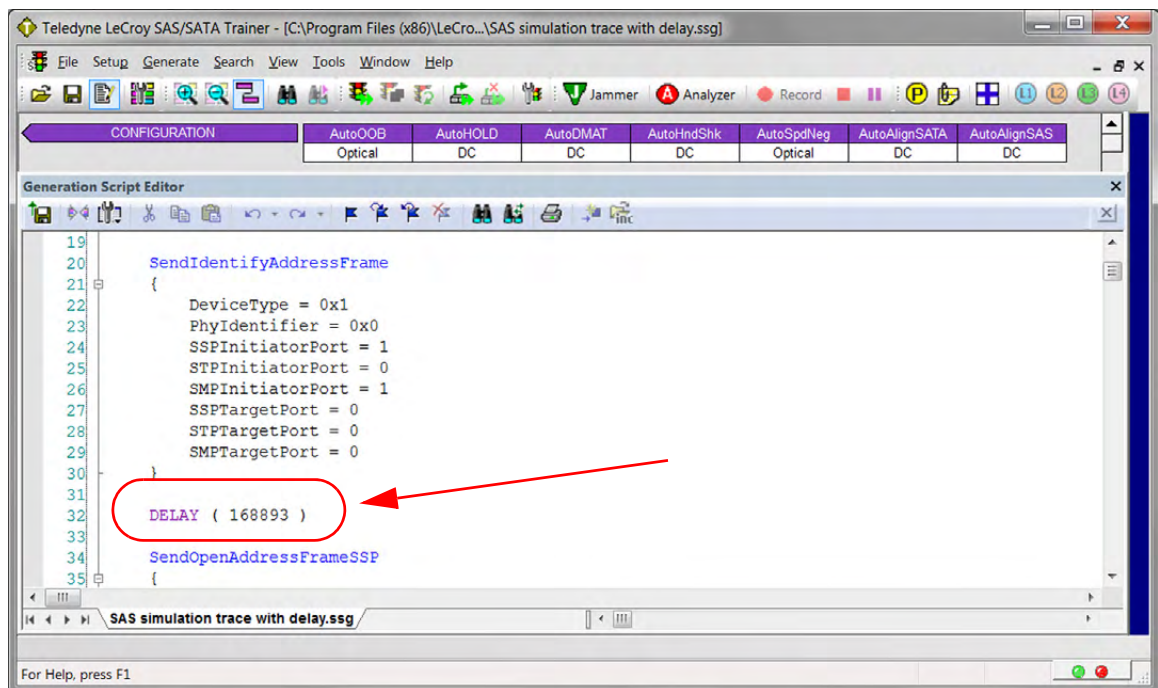

Figure 2.11: SAS Trainer Script with Delays
- ❑ **Insert Delays** inserts the exact delays as they appear in the original exported trace. This may result in the closest match in terms of timing to the original trace, but may not work with other DUTs. See Figure 2.11.